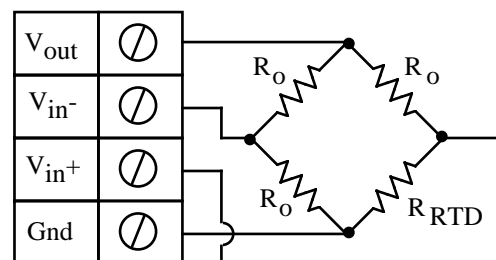

Fig 3.14 - Temperature Measurement (RTD) Bridge Circuit
Temperature measurement using an RTD in a bridge circuit involves wiring an RTD as one leg of a full-bridge circuit, applying a voltage across the bridge, and measuring the voltage across the two intermediate bridge nodes via a pair of instruNet V_{in+} and V_{in-} input terminals. The excitation voltage for the bridge is supplied by either the instruNet V_{out} terminal or by an external voltage source. In figure 3.14 R_{RTD} is an RTD and R_o is a resistor of known, similar, value. instruNet calculates the value of the temperature, returning degrees Celsius engineering units, using the equations:
8. Wire your voltage source per figure 3.14, and refer to the steps at the beginning of this chapter for more information on how to set up your sensor. To reduce noise, 0.001 seconds of integration is often helpful (i.e. set the Integrate field in the Hardware setting area to 0.001).^{5,10}